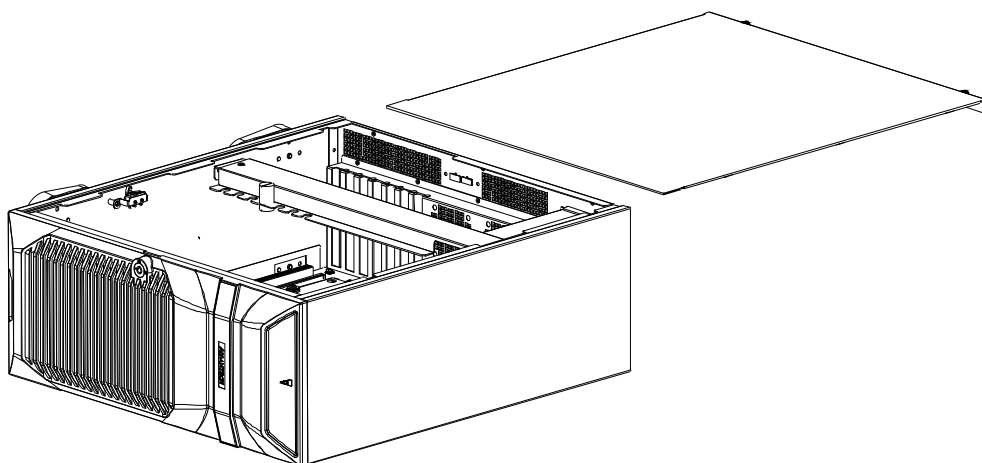

Figure 2.1 Removing the top cover/ 移除顶盖 / 移除上蓋
2. Slide the top cover backwards and then lift it up. (see Figure 2.1)
2. 将顶盖向后拉出然后向上抬起。（如图 2.1 所示）